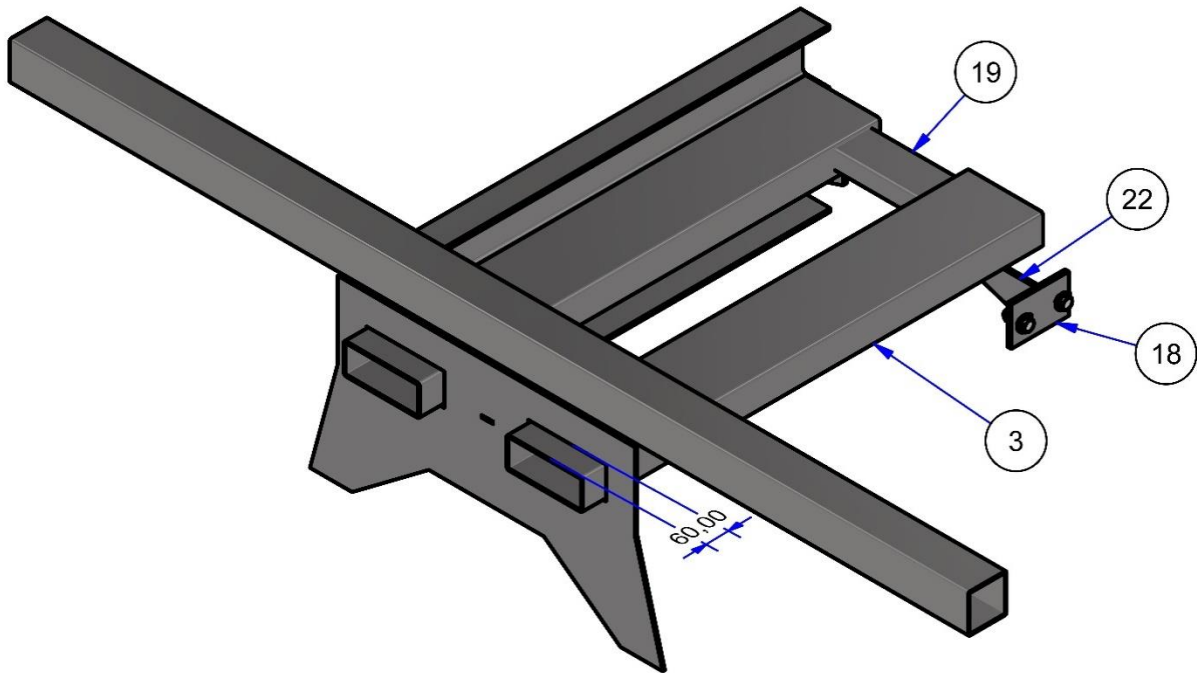

*Figure 4 (Fork Slippers)*
1. Slide the fork slippers (200 x 80 x 1200 long RHS) into place through the fork pocket openings in the back plate as illustrated in Figure 4